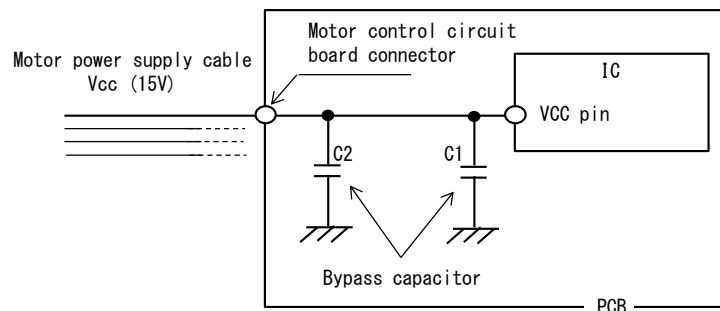

FIGURE 5.5.1 Example of Mounted Surge Suppression Devices
- ① Mount a bypass capacitor C1 near the pin of the IC. Use a capacitor that has excellent frequency characteristics, such as a ceramic capacitor. As a guide, a capacitor of around 1 μF is recommended.
- ② It is more effective to mount a surge suppression device, such as bypass capacitor C2 shown in Fig. 5.5.1, close to the connector of a motor control circuit board.